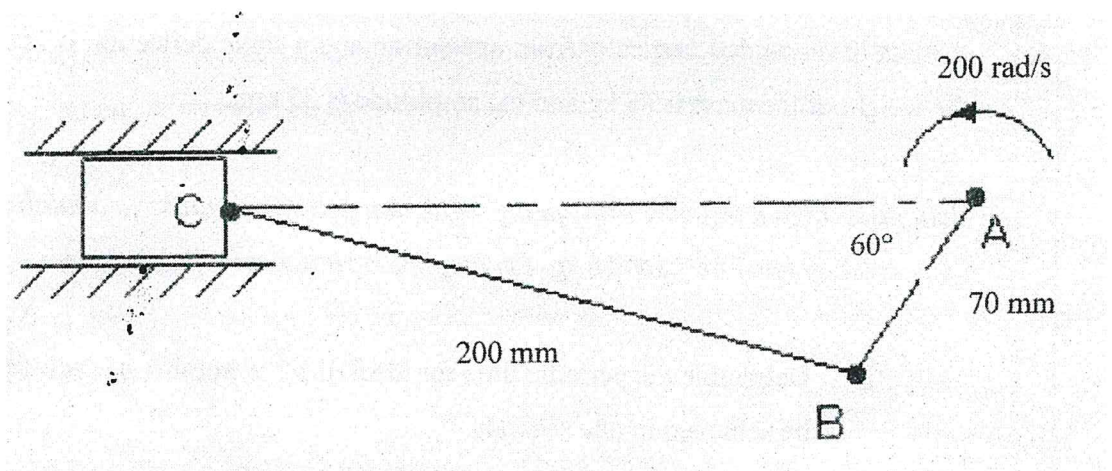

Figure 2(c) / Rajah 2(c)
- (c) A piston, connecting rod and crank mechanism is shown in **Figure 2(c)**. The crank AB with a radius of 70 mm rotates counter-clockwise at a constant velocity of 200 rad/s.